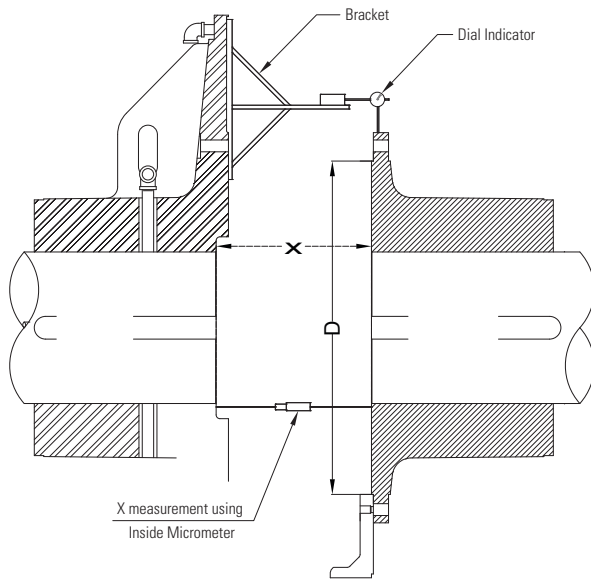

Figure 6
Angular Alignment Tolerance (Gap): Not to exceed 0.0005 inch per inch (0.0005 mm/ mm) diameter at which readings are taken ("D" on Figure 6 and 7).
- 2.4.1 Foundations must be set so distance "X", shown on Figure 6 (or the appropriate drawing for non standard applications), is established. If the TLC is mounted on a shaft having plain bearings, make sure the shaft is centered within the bearings when establishing the "X" dimension. Refer to Table 2 for appropriate "X" dimensions.
- 2.4.2 Fabricate a rigid bracket for supporting a dial indicator and attach to the spider. See Figure 6.